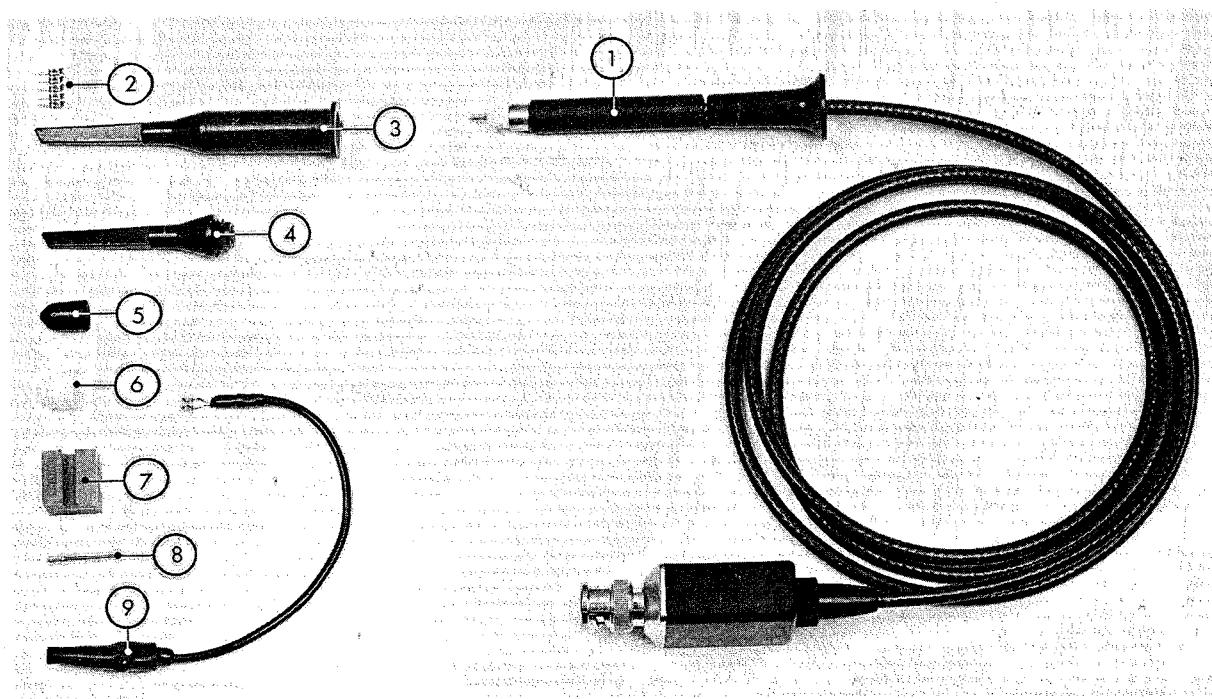

Fig. 3.23. Attenuator probe set PM 9358
| 1 probe assembly | Fig. 3.23, item 1 |
| 5 soldering terminals | Fig. 3.23, item 2 |
| 1 test hook | Fig. 3.23, item 3 |
| 1 spare test hook sleeve | Fig. 3.23, item 4 |
| 1 protective cap | Fig. 3.23, item 5 |
| 1 insulating cap | Fig. 3.23, item 6 |
| 1 probe holder | Fig. 3.23, item 7 |
| 2 spare test pins | Fig. 3.23, item 8 |
| 1 earthing cord | Fig. 3.23, item 9 |